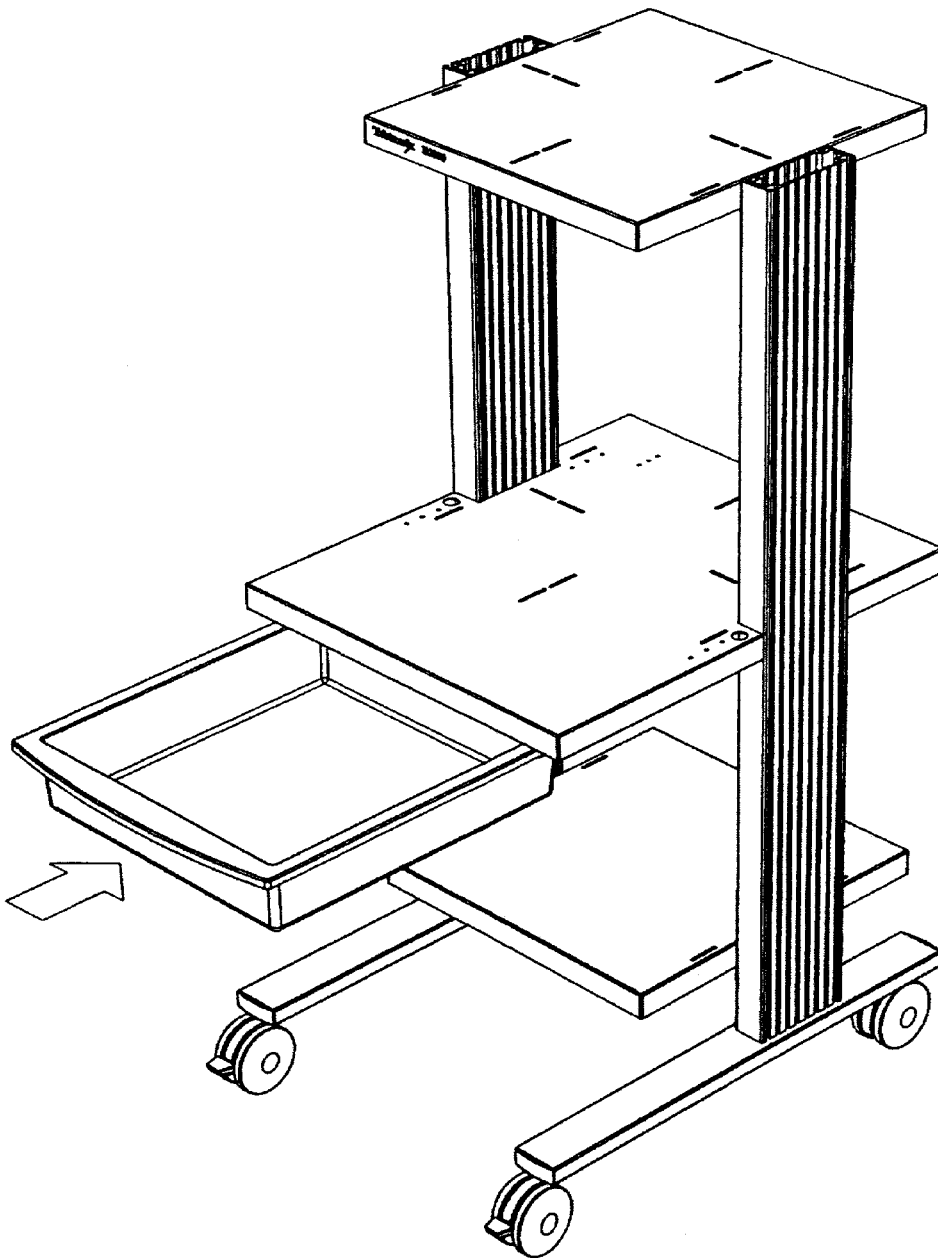

Figure 12: Installing the Drawer
1. Slide the Drawer in underneath the keyboard shelf as shown in Figure 12. Position the drawer so that the curved edge is to the front of the cart. Slide the drawer into the shelf until it stops.